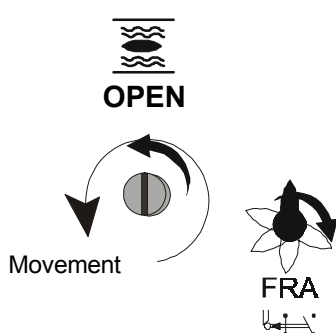

Fig. 8.5.1
- Turn A spindle Counter-clockwise (Figure 8.5.1) until B spindle turns clockwise (At this moment FRA microswitch triggers). Just before FRA microswitch was tripped, B red arrow should be pointed to vertical: When B spindle (Red arrow) turns to right the FRA microswitch is tripped.